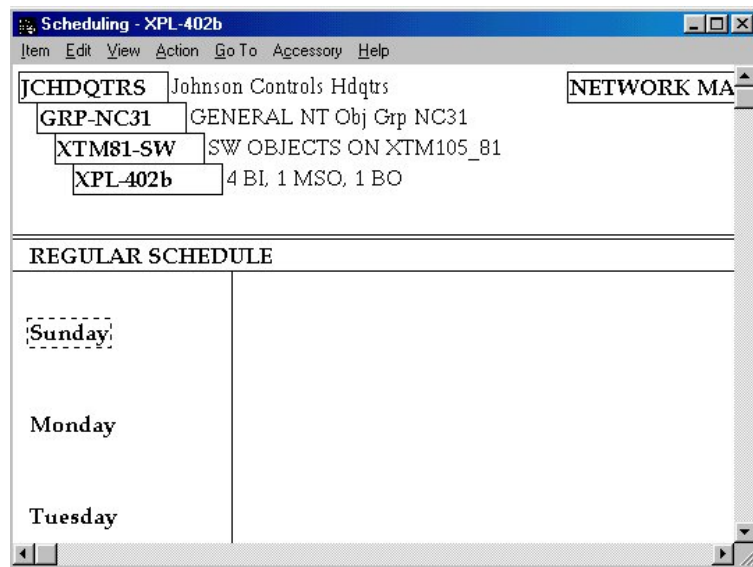

Figure 9-2: Scheduling Window
3. Click Schedule. The Scheduling window appears (Figure 9-2).
2. On the Go To menu, click Schedule. The Scheduling window appears (Figure 9-2).